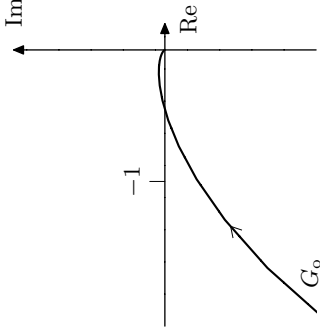
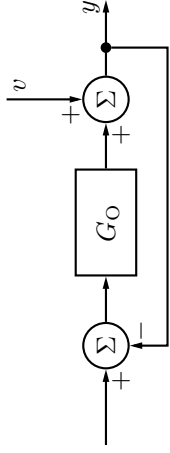

Figure 6.3a
Figure 6.3b
6.3 Figure 6.3a shows a Nyquist diagram for the loop gain  $G_o$ . Show in a figure for what frequencies (that is, for what part of the Nyquist curve above) additive disturbances on the output are amplified in the sense that the output amplitude of the control system in Figure 6.3b is larger than the disturbance amplitude.